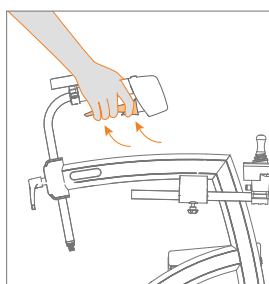

Figure 67: Apply the parking brake.
- Do you want to use the parking brake to ensure the rollator does not roll away? First squeeze the brake handles and simultaneously squeeze the parking brake levers. Then release the brakes. Your walker is now in the parking position (**Figure 67**).